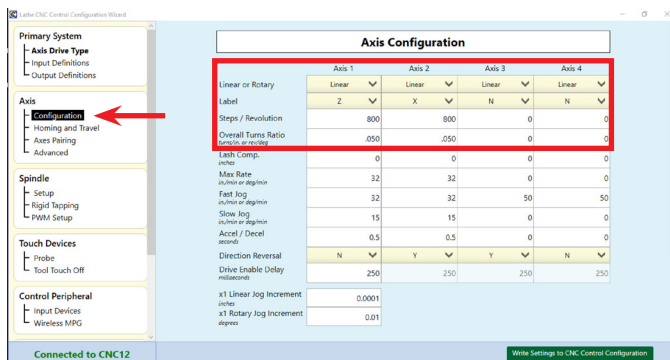

FIGURE 2—Axis configuration for leadscrew lathes.
1. **Axis Configurations:** See Figures 2 and 3 for leadscrew and ball screw axis configurations, respectively.